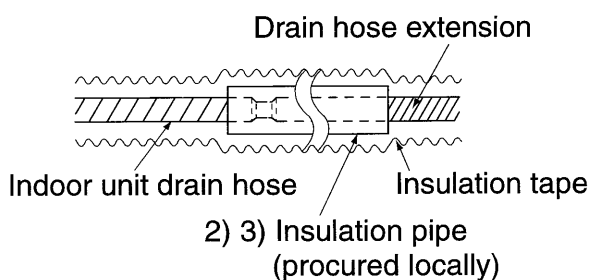

Fig. 15
- When extending the drain pipes, use commercially available extension hose, and be sure to insulate the extended part of the drain hose which is indoors. **(Refer to Fig. 15)**